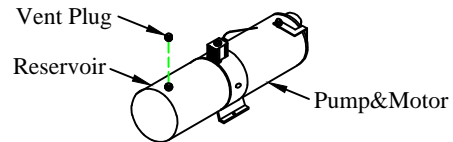

Figure 19: Vent plug.
7. **Install** the vent plug provided into the pump reservoir (Figure 19).